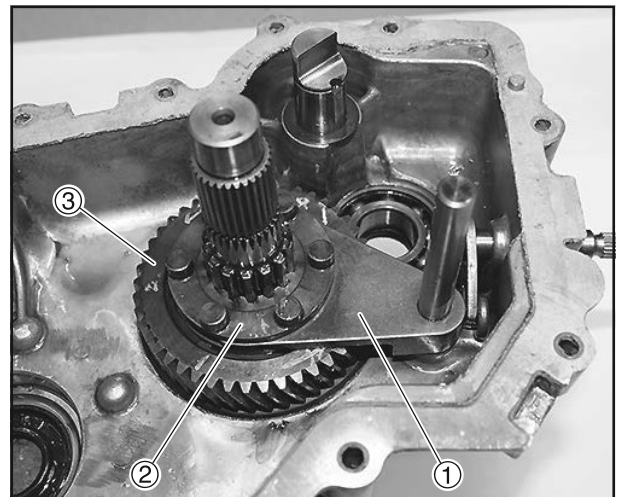

Figure 6-86
1. Install the forward gear (Figure 6-86, (3)) and the countershaft.
2. Install the shift fork (Figure 6-86, (1)) along with the shift collar (Figure 6-86, (2)).